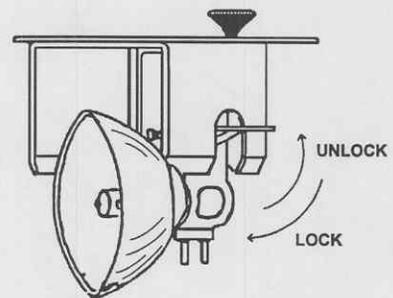

Figure 3-5. Opening/closing the latch assembly.
- (5) Pull the latch assembly lever forward with the fingers of your right hand as illustrated in figure 3-5.